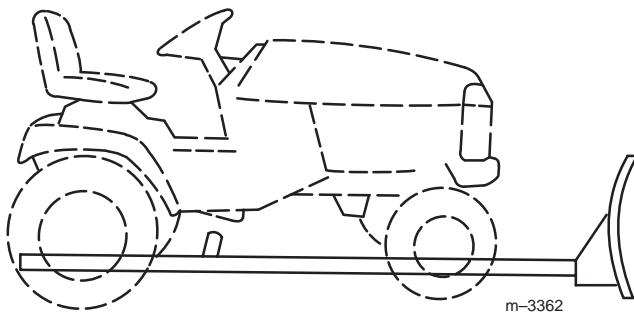

Figure 5
2. Park the tractor over the snow blade assembly, with the frame between the tractor wheels (Fig. 5). Set the parking brake, lower the attachment lift, and turn the ignition key to “OFF” to stop the engine. Remove the ignition key.